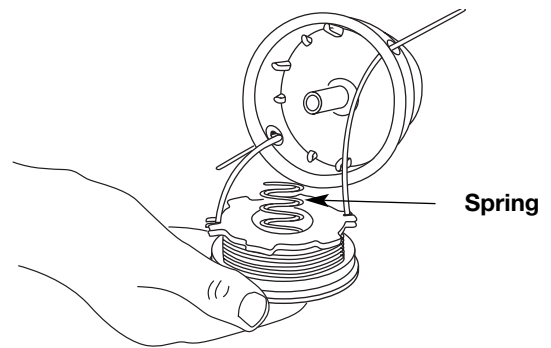

Fig. 19
- Insert the ends of the line through the eyelets in the outer spool and place inner reel with spring inside the outer spool (Fig. 19). Push the inner reel and outer spool together. While holding the inner reel and outer spool, grasp the ends and pull firmly to release the line from the holding slots in the reel.
5. Insert the ends of the line through the eyelets in the outer spool (Fig. 19).